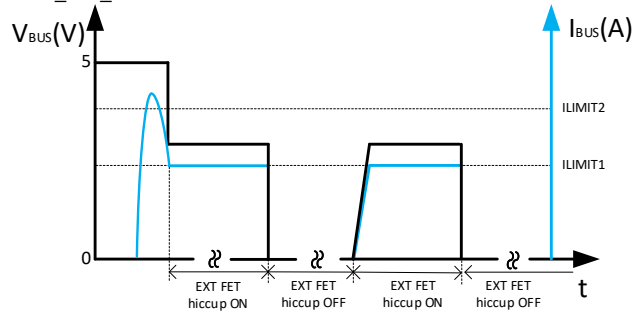

图 10-20. Two Level Current Limit Methodology with ext MOSFET Case 3
- Case 3: If the load current  $I_{BUS} > I_{LIMIT2}$ , the external MOSFET will current limit to  $I_{LIMIT1}$  immediately, then enter hiccup mode with 2 ms of on-time and 263 ms of off-time, as shown in 图 10-20. When the load current  $I_{BUS} < I_{LIMIT1}$  for  $t_{OC\_HIC\_RST}$ , the external MOSFET will resume always on.